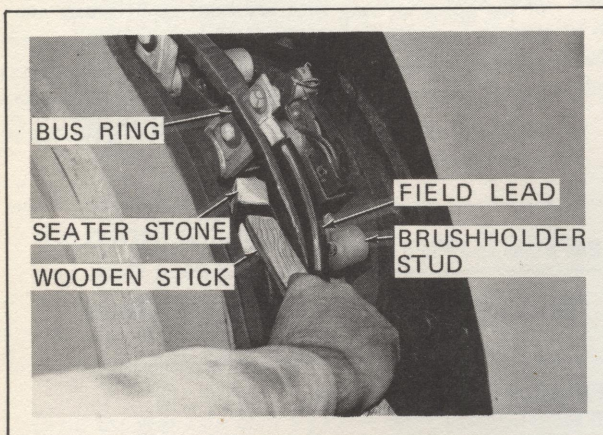

FIG. IV-5. RESURFACING COLLECTOR RINGS WITH BRUSH SEATER STONE.
2. Tape seater stone to the end of a stick for use as shown in Fig. IV-5.